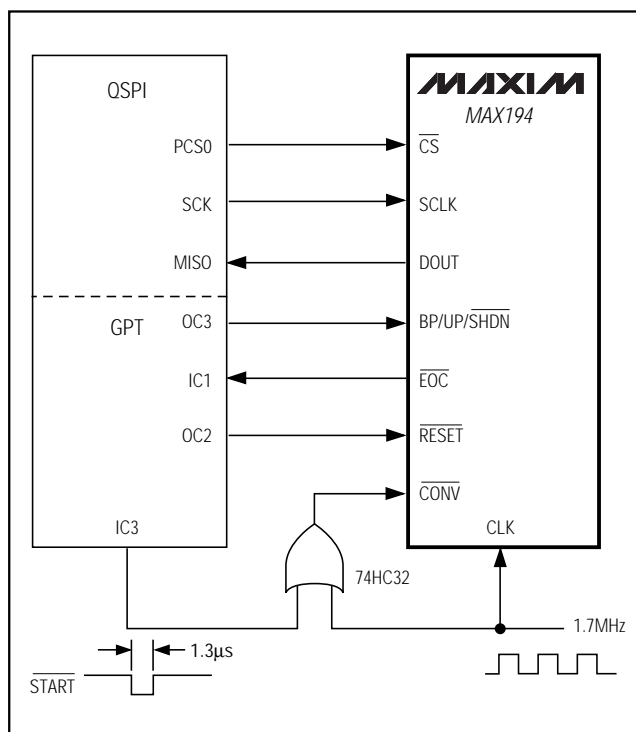
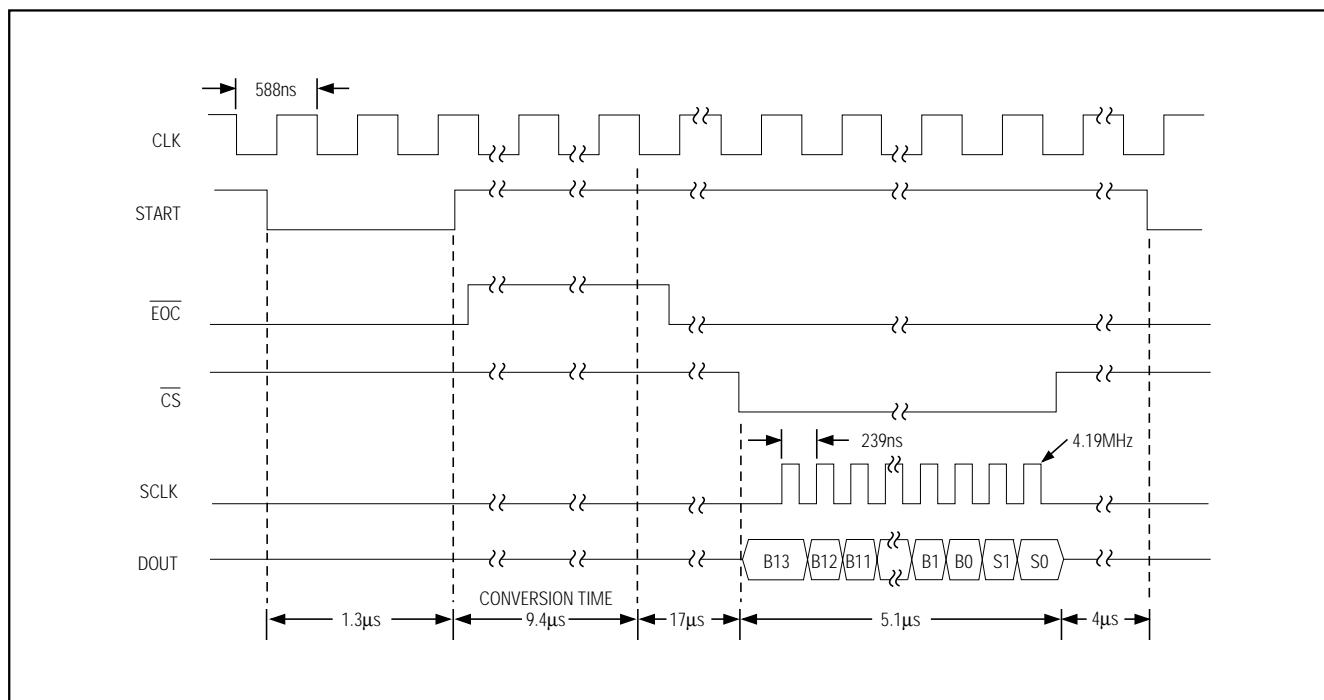

Figure 19. MAX194 Connection to QSPI Processor Clocking Data Out with SCLK Between Conversions
Figure 20. Timing Diagram for Circuit of Figure 19
This mode uses a conversion clock (CLK) and a serial clock (SCLK). The serial data is clocked out between conversions, which reduces the maximum throughput for high CLK rates, but may be more convenient for some applications. Figure 19 is a block diagram with a QSPI processor (Motorola 68HC16) connected to the MAX194. Figure 20 shows the associated timing diagram. Figure 21 gives an assembly language listing for this arrangement.
* MAX194 code listing for 68HC16 module and circuit of Figure 19 *
* (C) 1994 Maxim Integrated Products *